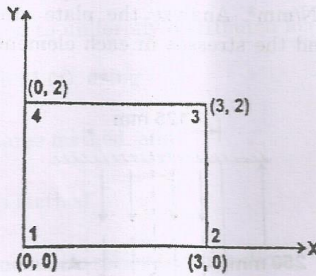

Figure 13 (a)
13. (a) For a four noded rectangular element shown in Figure 13 (a), determine the temperature at the point (2, 1). The nodal temperatures are $T_1 = 42^\circ\text{C}$, $T_2 = 54^\circ\text{C}$, $T_3 = 56^\circ\text{C}$ and $T_4 = 46^\circ\text{C}$.